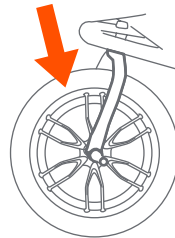

Fig. 24
- 24) • Lift the front wheel off of the ground and sharply strike the top of the tire (Fig. 24). The wheel should not be loose or come off.